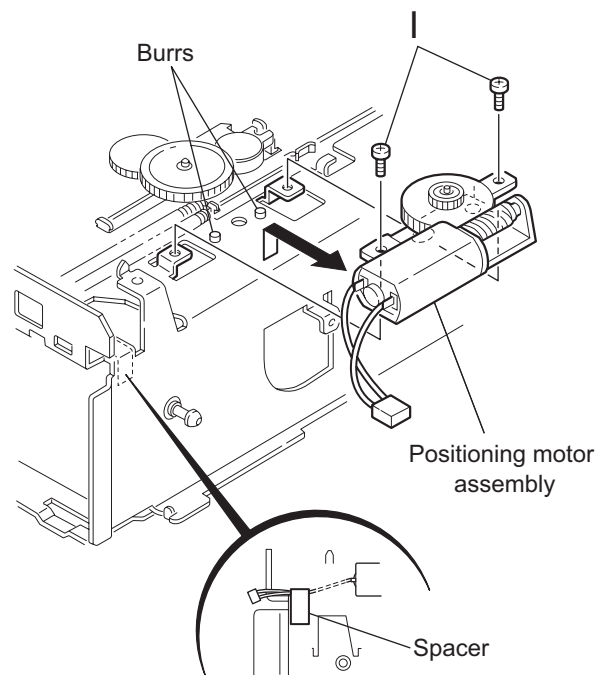

Fig.14
2.4.3 Remove the positioning motor assembly (See fig.14)